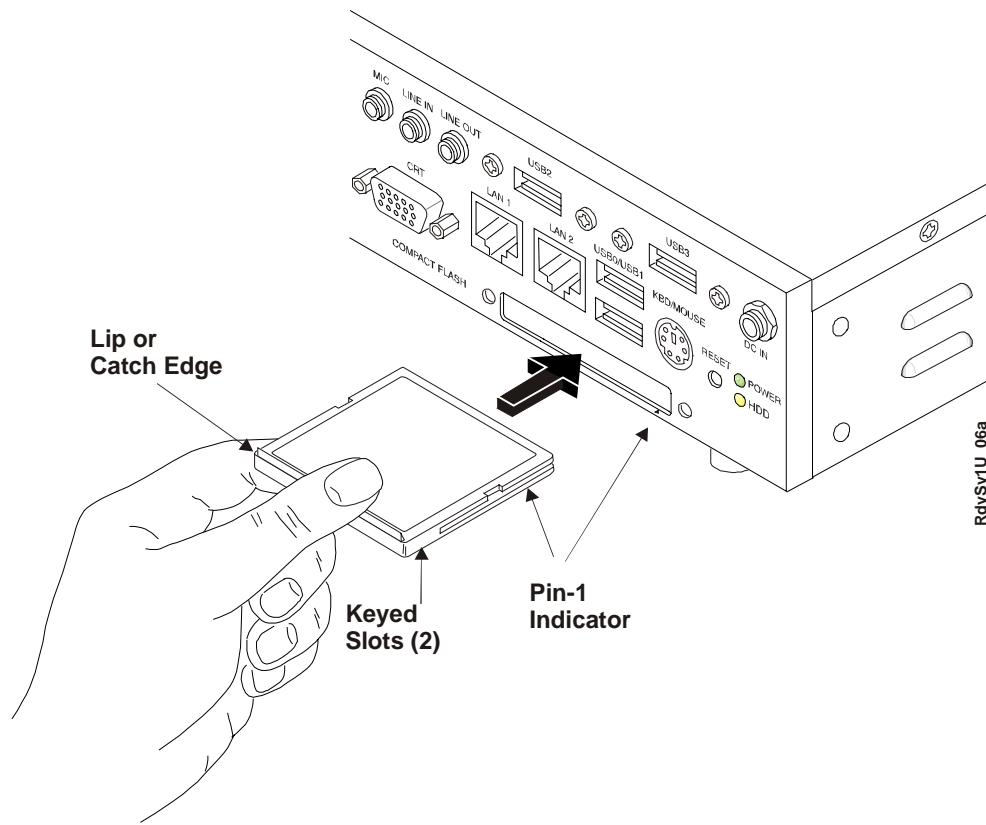

Figure 2-2. Installing Compact Flash Card
7. Insert the compact flash card into the opening provided by matching the pin-1 orientation of the compact flash card with the arrowhead on the I/O panel. See Figure 2-2.
The keyed slots and lip (or catch edge) on the compact flash card are used to install into the socket in only one orientation. Pin-1 should be down and to the right as shown in the Figure 2-2.
- Push the compact flash card into the opening until it firmly seats into the socket and mates with the pins. See Figure 2-2.